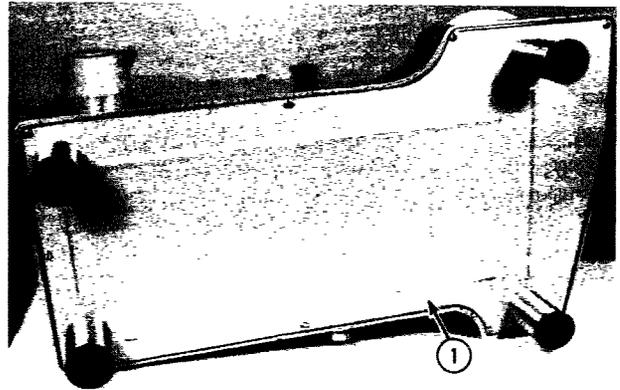

Fig. 2-7
- (1) Lift the bowl cover and remove it from the hinge pins.
- (2) Remove the comb and knife assembly.
- (3) Remove the bowl.
- (4) Using a support so the electrical cord will not be damaged, lay the machine on its back (Fig. 2-7).
- (5) Remove the bottom cover and leg assembly (1, Fig. 2-7) from the bottom of the housing.